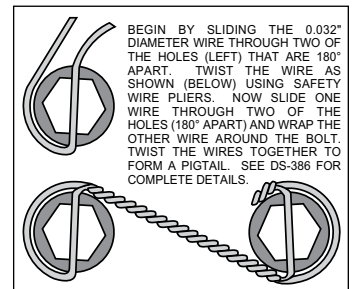

Figure 3. Safety Wire Diagram
- Orient the rotor (9) and the hat (10) as shown in Figure 1 and Photo 5. Attach rotor to hat using bolts (11) and washers (12). Apply red *Loctite*® 271 to the bolt threads and torque to 155 **in-lb** using a criss-cross pattern. For an added measure of security, the bolts may be safety wired using standard 0.032 inch diameter stainless steel safety wire as shown in Figure 3. Refer to Wilwood's data sheet DS-386 (available at [www.wilwood.com/Pdf/DataSheets/ds386.pdf](http://www.wilwood.com/Pdf/DataSheets/ds386.pdf)) for complete safety wire installation instructions.
- Slide the hat/rotor assembly (10 and 9) onto the hub (6) taking care to align the small countersunk holes in the hat with the small threaded holes in the hub. **NOTE:** *The hat must fit flush against the hub face or excessive rotor run out may result.* Install three flat head screws (13) through the small holes in the hat, Photo 6, and torque to 85 **in-lb**.